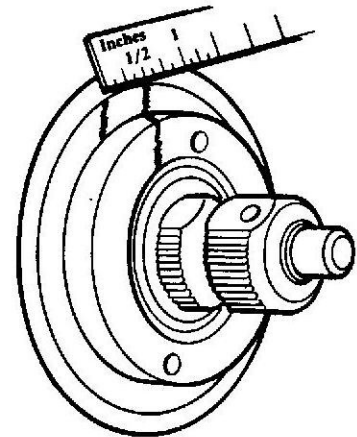
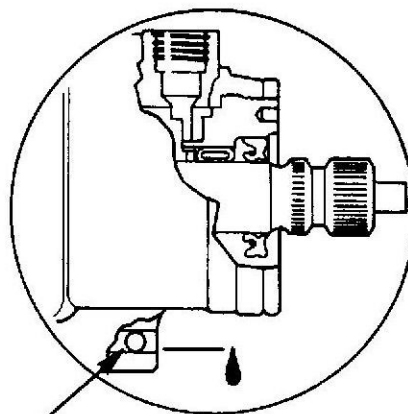

Fig. 1 Indexing Gear Housing
Fig. 2 Revised Steering Gear Leak Diagnosis and Corrective Action (View A)
B. On page 11-57 under subtitle "ASSEMBLY - STEERING GEAR HOUSING COMPONENTS," step (12) should be changed to read: Install end plug in rack piston. Tighten end plug to 75 foot-pounds (102 N•m) torque.
C. On page 11-58 under the subtitle "WORMSHAFT BEARING PRELOAD," step (3) should be changed to read: Measure counterclockwise one-half inch (13mm) from first index mark and remark housing. Refer to Figure 1 below.
D. On page 11-58 under the subtitle "PITMAN SHAFT OVERCENTER DRAG TORQUE," step (1) should be changed to read: Loosen locknut, turn pitman shaft adjuster screw (counterclockwise) until fully extended, then turn it back (clockwise) one full turn. Step (7) should be changed to read: Tighten pitman shaft adjusting screw locknut to 20 foot-pounds (27 N•m) torque after adjusting overcenter drag torque.
(11) Kink in Return Hose (11) Replace Return Hose
B. On page 2L-12, fig. 2L-7, View A, the information referring to the ball plug should read as shown in fig. 2.
C. On page 2L-32 under subtitle "STEERING GEAR ASSEMBLY AND ADJUSTMENT," step (19) should be changed to read: Install end plug in rack piston. Tighten end plug to 75 foot-pounds (102 N • m) torque.
D. On page 2L-34 under the subtitle "WORM BEARING PRELOAD," step (3) should be changed to read: Measure counterclockwise one-half inch (13mm) from first index mark and remark housing. (Refer to fig. 1.)
(11) Kink in Return Hose (11) Replace Hose
B. On page 2L-12, figure 2L-7, View A, the information referring to the ball plug should read as shown in fig. 2.